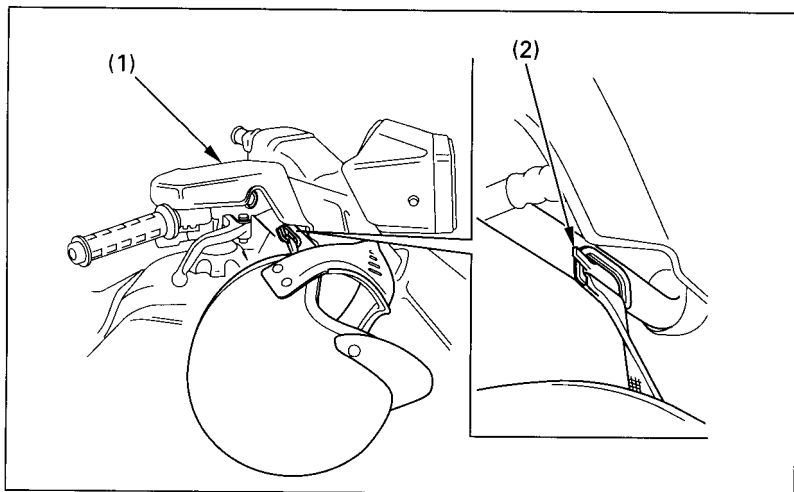

Fig. 2-23 (1) Handlebar cover
The helmet holder (2) (Fig. 2-23) is a bracket near the right side of the handlebar cover (1). To use the holder, hang the D-ring on your helmet strap over the bracket. Use the helmet holder only when the FOURTRAX is parked.